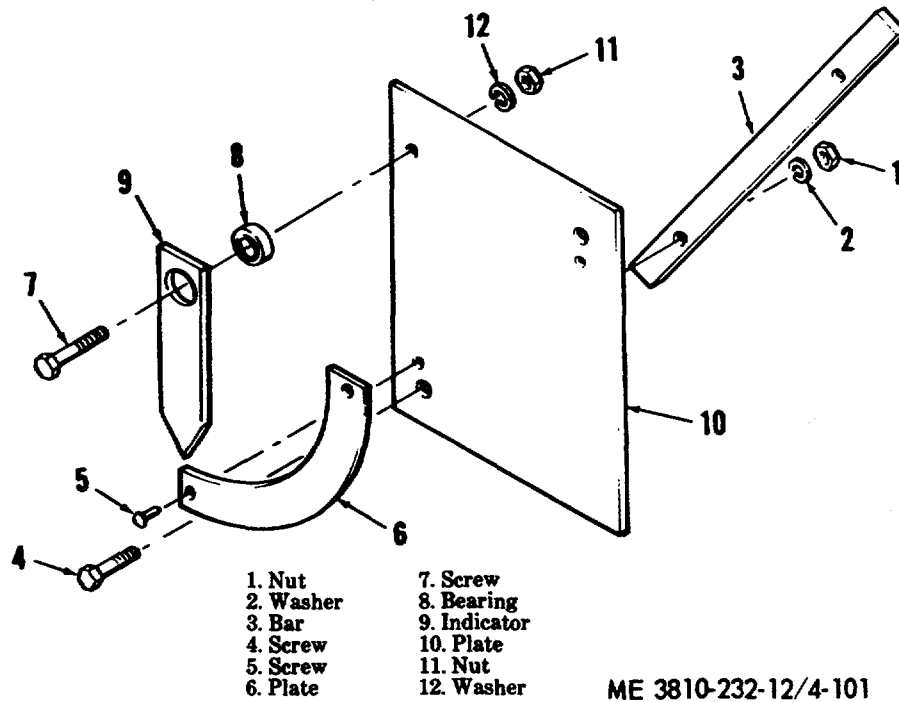
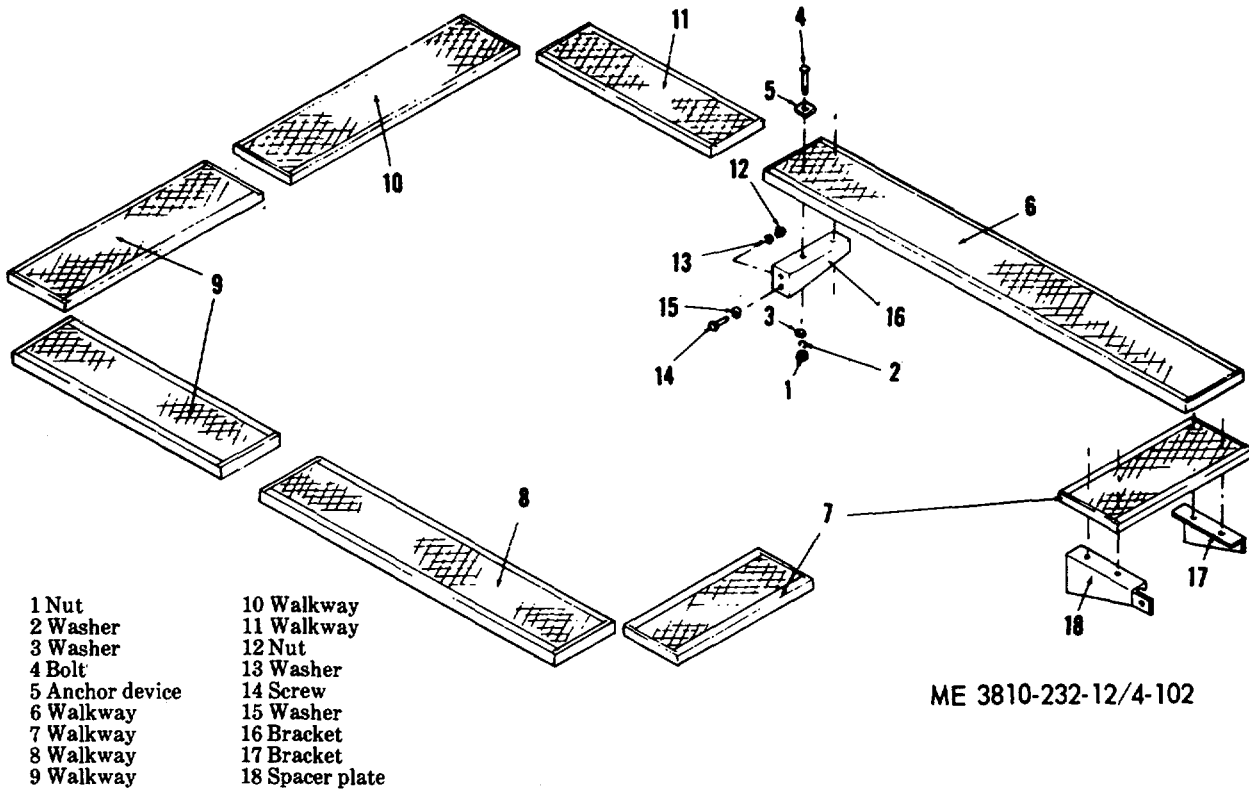

Figure 4-101. Boom angle indicator, Removal and installation
Figure 4-102. Crane walkway assembly, removal and installation.
a. Removal and Disassembly. Remove and disassemble boom angle indicator as illustrated in figure 4-101.
- (1) Clean all parts
- (2) Inspect all parts for breaks, cracks, excessive wear, or other damage. Replace defective parts.
- c. Reassembly and Installation. Reassemble and install boom angle indicator as illustrated in figure 4-101.
- (1) Clean hook block.
- (2) Inspect for cracks or other damage. Replace a defective hook block.
- a. Removal and Disassembly. Remove and disassemble walkway assembly as illustrated in figure 4-102.
(1) Clean walkway assembly.
(2) Inspect for cracks, bends or other damage.
(3) Straighten bends and weld cracks as necessary.
(4) Replace parts as required.
c.. Reassembly and Installation. Reassemble and install walkway assembly as illustrated in figure 4-102.